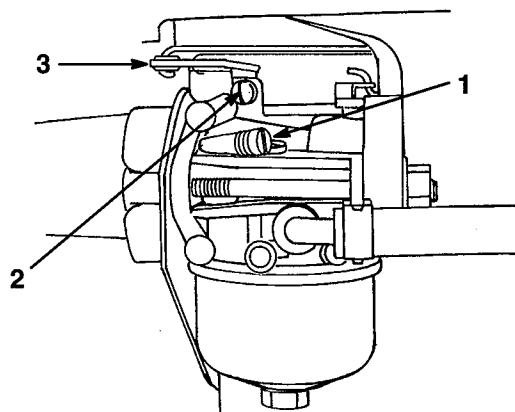

Figure 24
- Gently turn the idle mixture screw (Fig. 24) clockwise until it just closes. Do not force (tighten) the idle mixture screw because the carburetor could be damaged.
- Open the idle mixture screw (Fig. 24) one turn counterclockwise. This setting allows you to start the engine.
- Hold the carburetor throttle arm against the idle speed screw (Fig. 24). Adjust the idle speed screw so the engine idles at 1750 rpm. Check the rpm with a tachometer.
- While you continue holding the throttle arm against the idle speed screw, slowly turn the idle mixture screw (Fig. 24) in (clockwise) until the engine begins to slow (lean mixture). Next, turn the idle mixture screw out (counterclockwise) until the engine begins to run roughly (rich mixture).
- Now rotate the idle mixture screw (Fig. 24) midway between the lean and rich mixture until the engine runs smoothly.